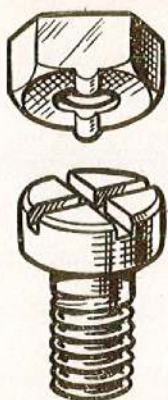

Fig. 16. View showing lips of spring cup which engage with adjustment screw slots
7. Ensure that the spring cup is undamaged, particularly the lips on its underside (*fig. 16*).